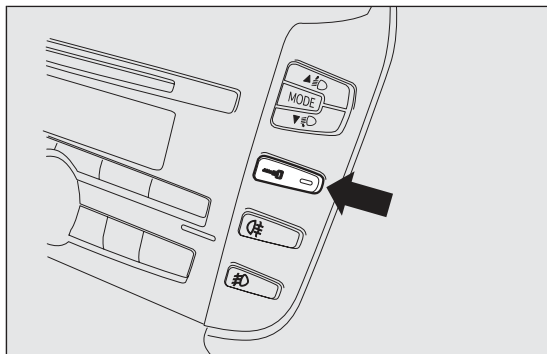

fig. 13
- ☐ door locking/unlocking button fig. 13 on the central trim;